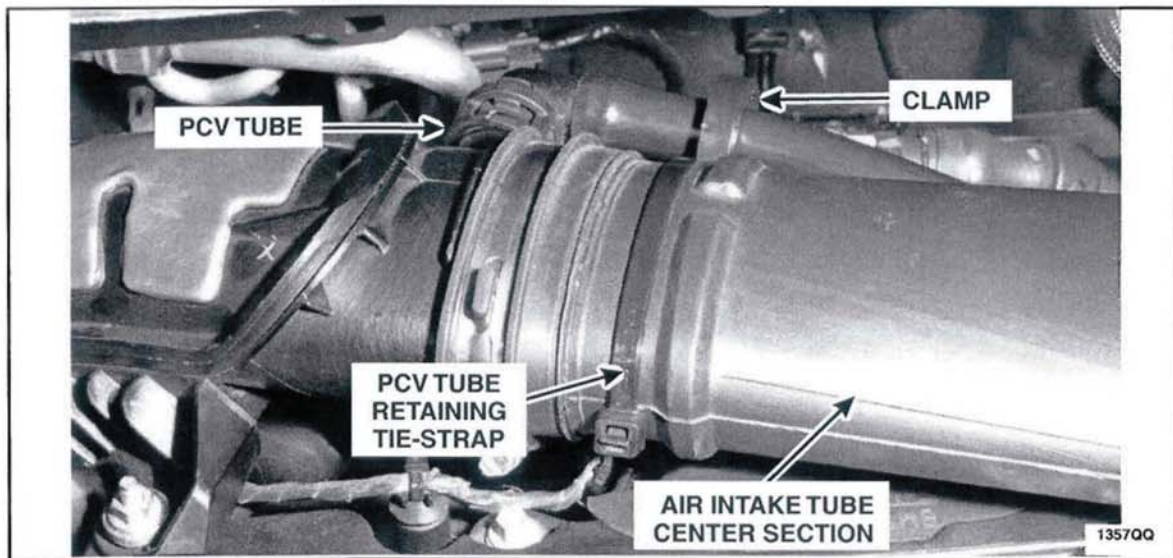

FIGURE N2
8. Install the PCV tube retainer / tie strap provided in the vehicle parts kit. See Figure N2.